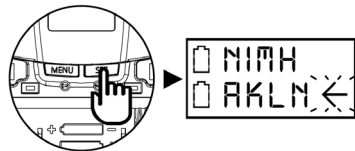

Figure 13
2. Press and hold the SET button for 3 seconds, then the arrow cursor will flash to allow changes to be made (Fig 13).